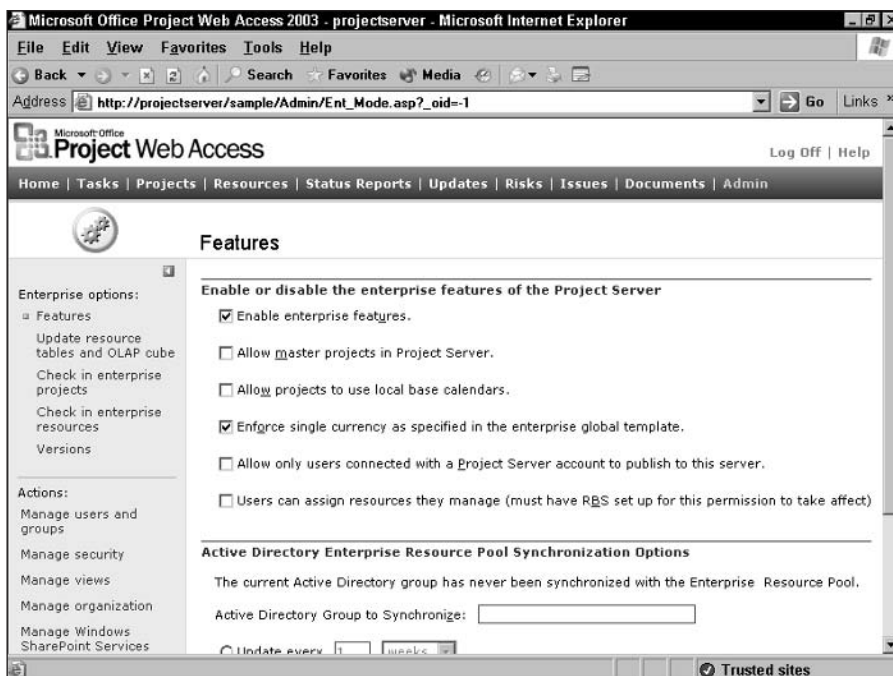

Figure 18-37: Supply mail server information.
4. On the Notifications and reminders page (see Figure 18-37), supply the name and port of the SMTP mail server.